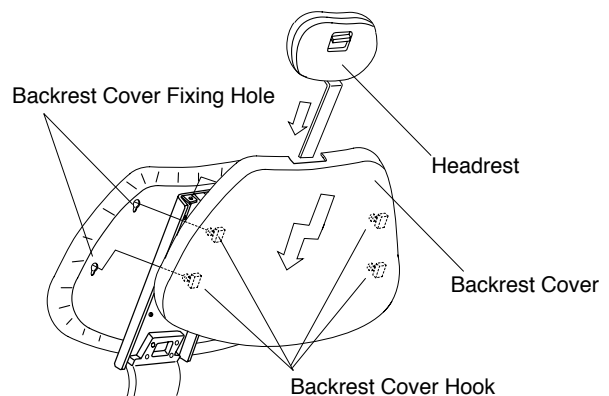

Fig.3-7-4 Fixing Backrest Cover and Headrest
(6) Attach the backrest cover to the backrest cushion (**Fig.3-7-4**)
Keep pressing the backrest against backrest, slide down the backrest cover so that lower two hooks catch the lower fixing holes. (**Fig.3-7-4**)
(7) Attach the headrest. (**Fig.3-7-4**)